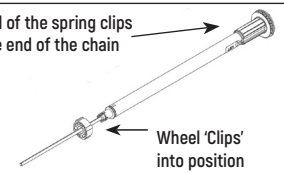

Fig 3.2
3. Slide the spring into the end of the blind tube but do not push all the way in. Stop just short of the point where the chain drive engages with the keyway on the tube (**Fig 3.2**).